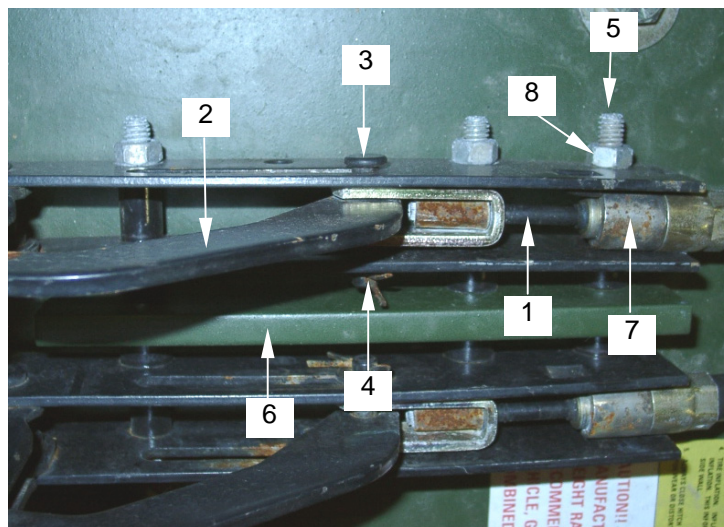

Figure 9. Installing Brake Cable into Brake Handle Assembly
15. Install parking brake cable (**figure 9, item 1**) into brake handle assembly (**figure 9, item 2**).
16. Secure cable with retaining pin (**figure 9, item 3**) washer, and cotter pin (**figure 9, item 4**).
17. Install rear mounting bolt (**figure 9, item 5**) through both handle assemblies, the center bracket (**figure 9, item 6**) and cable clamp (**figure 9, item 7**). Secure with nuts (**figure 9, item 8**).